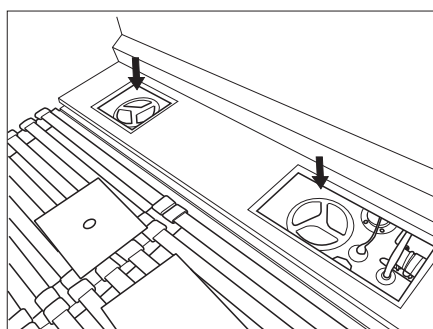

Fig. 69 Cleaning openings fresh water tank (illustration similar)
- Screw out and remove the cleaning openings (Fig. 69).